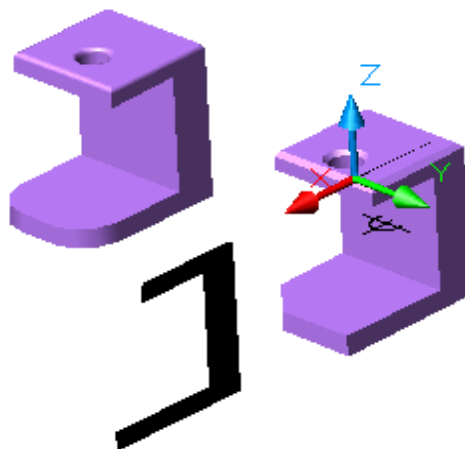

Figure Step 15
Step 15 Move the region you just created outside of the model. It is not important where you locate it. Shaded and rotated, your model should appear similar to the figure. (Figure Step 15).